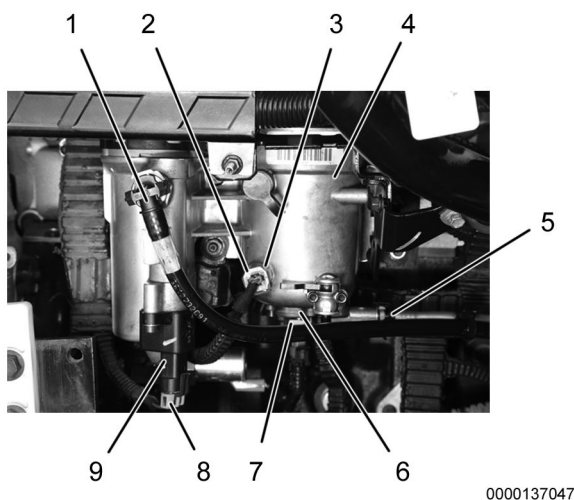

Figure 11. Fuel Filter Assembly Connections.
10. Connect fuel return line (Figure 11, Item 5) to fuel filter assembly (Figure 11, Item 4).
11. Connect fuel supply line (Figure 11, Item 1) to fuel filter assembly (Figure 11, Item 4).
12. Connect engine harness connector (Figure 11, Item 8) to 250-watt fuel heater (Figure 11, Item 9).
13. Connect engine harness connector (Figure 11, Item 2) to WIF sensor (Figure 11, Item 3).
14. Connect engine harness connector (Figure 11, Item 7) to FDP sensor (Figure 11, Item 6).